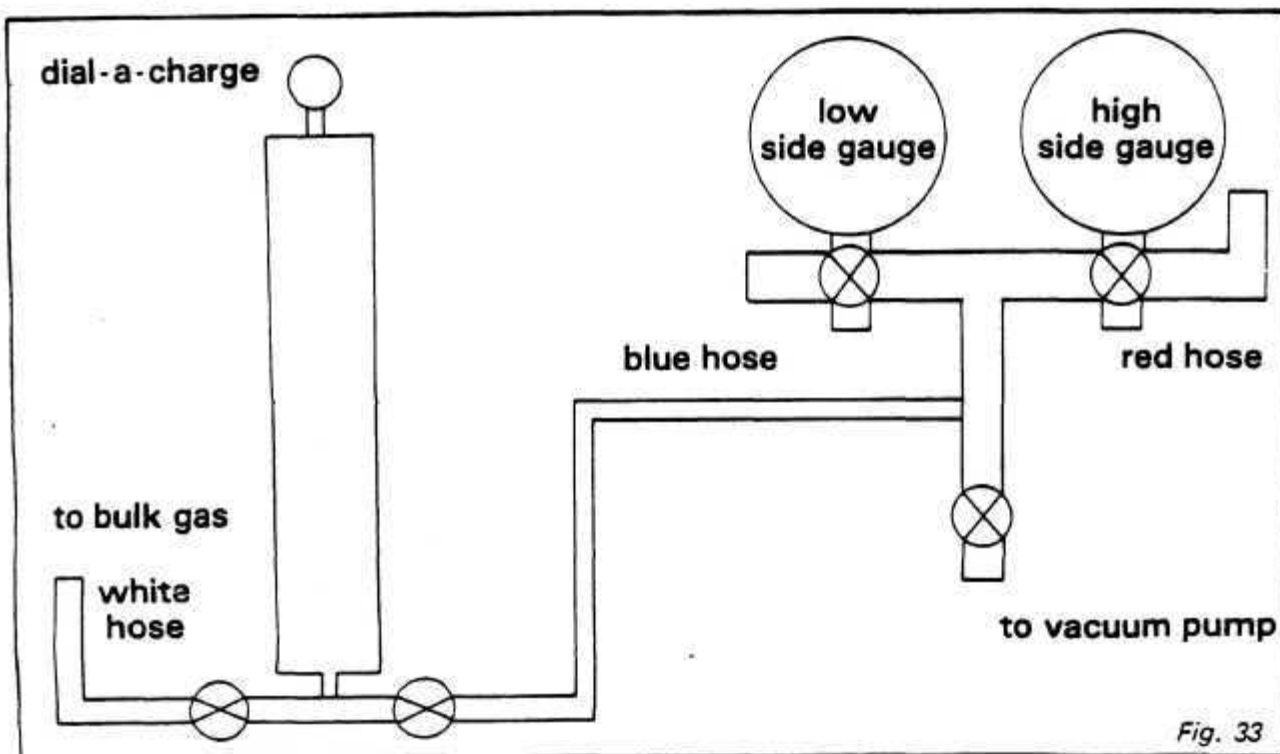

Fig. 33
2. Connect white hose from left hand valve (2) (Fig. 33) to liquid connection on bulk supply.
4. Open valve (2). Liquid flow into cylinder — visible in sight glass, until bulk tank and D.A.C. at same pressure.